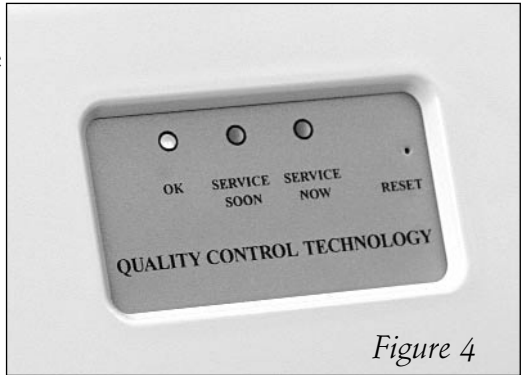

Figure 4
2. Activate the filter replacement timer by pressing the reset button on the timer light panel on the front of the cover for 3 seconds until the three lights flash and the green light flashes every 10 seconds. (see figure 4, refer to appendix 1)